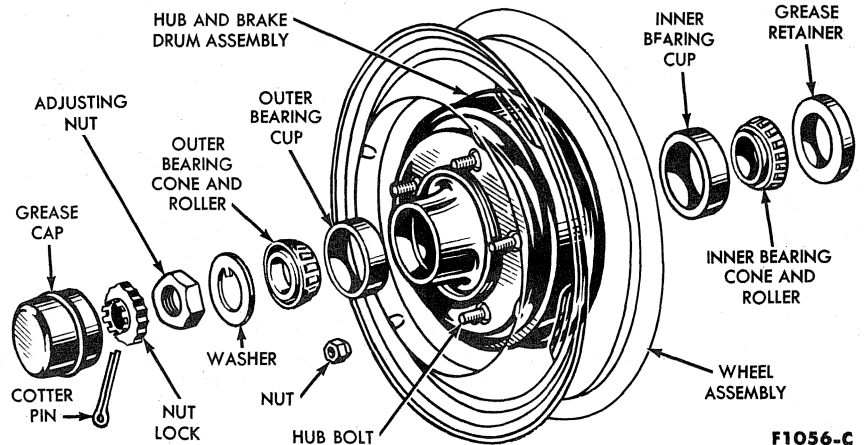

FIG. 1—Front Hub, Bearings and Grease Retainer
Each front wheel and tire is bolted to its respective front hub and brake drum assembly. Two opposed tapered roller bearings are installed in each hub. A grease retainer is installed at the inner end of the hub to prevent lubricant from leaking into the drum. The entire assembly is secured to its spindle by the adjusting nut, nut lock and cotter pin (Fig. 1).
2. Pry off the hub cap or wheel cover and remove the grease cap (Fig. 1) from the hub.
3. Remove the wheel cover or hub cap. Remove the grease cap from the hub. Remove the cotter pin, nut lock, adjusting nut, and flat washer from the spindle. Remove the outer bearing cone and roller assembly (Fig. 1).